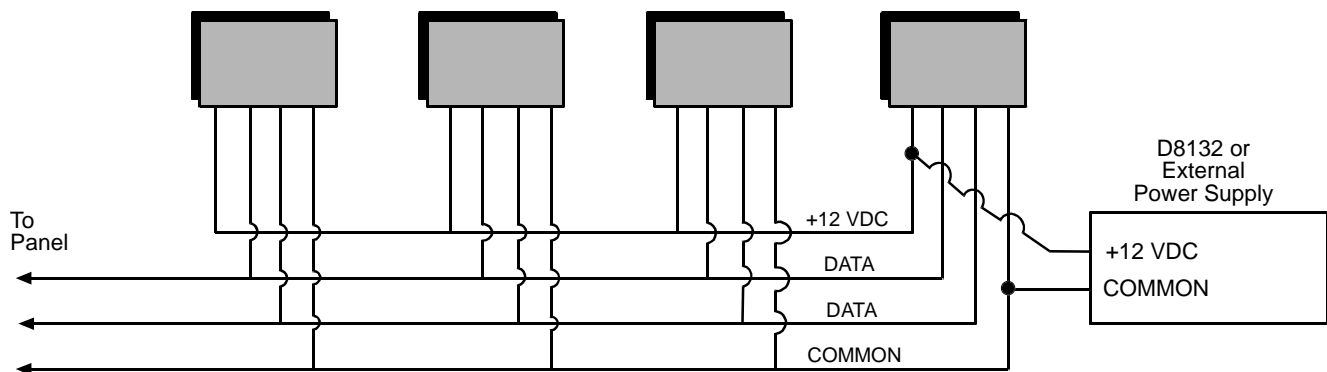

Figure 18: Power at Command Centers
One or more D8132 Battery Charger/Power Supply Modules may need to be added for the number of command centers that will be used. Figure 18 shows the D8132 powering command centers in a stand-alone configuration.
**Control/Communicator and D8132 (or other power supply) must share COMMON:** Note that Figure 18 shows the common from the D8132 Module connected to both the command centers' common and the common on the control/communicator. Any stand-alone power supply powering any device connected to the panel must also be connected to a common terminal on the panel. **Do not connect the stand-alone power supply's earth ground to Terminal 10.**